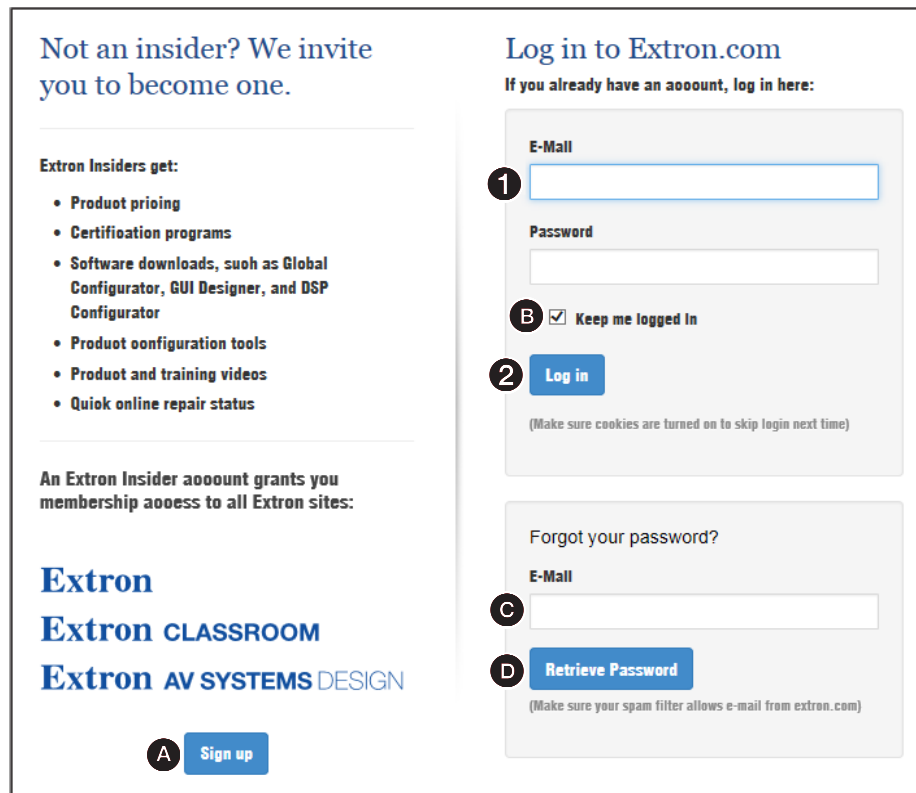

Figure 120. Log in Dialog Box
4. Click **Download** for the desired software or firmware package to download (**2**). The Log in dialog box appears (see figure 120).
5. Enter the **E-Mail** address and **Password** associated with your Extron insider account (see figure 120, **1**).
- Click **Sign up** (see figure 120, **A**) on page 119) to obtain website credentials.